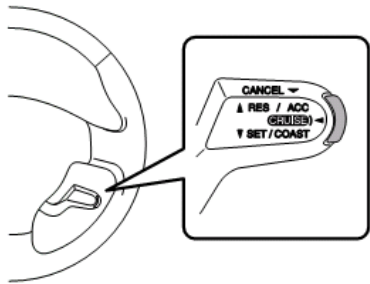
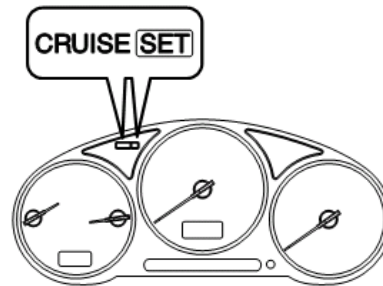

Figure 2 - "CRUISE" and "SET/COAST" buttons
Figure 3 - "CRUISE" and "SET" indicator lights
The 30-1820 / 30-1821 EMS, as delivered, requires a specific calibration procedure to be performed prior to use. Before beginning this procedure, please be familiar with the location and function of the **CRUISE** and **SET/COAST** buttons on the Cruise Control Steering Column Stalk as depicted in *Figure 2*. Also be aware of the (green) **CRUISE** and **SET** indicator lights on the dashboard, *Figure 3*. **This procedure should be repeated any time any part of the ETC system has been serviced, removed, or replaced.**
- d. Keep holding both the **CRUISE** and **SET/COAST** buttons for approximately ten (10) seconds until the **CRUISE** and **SET** indicator lights (*Figure 3*) begin flashing in unison at a medium rate.